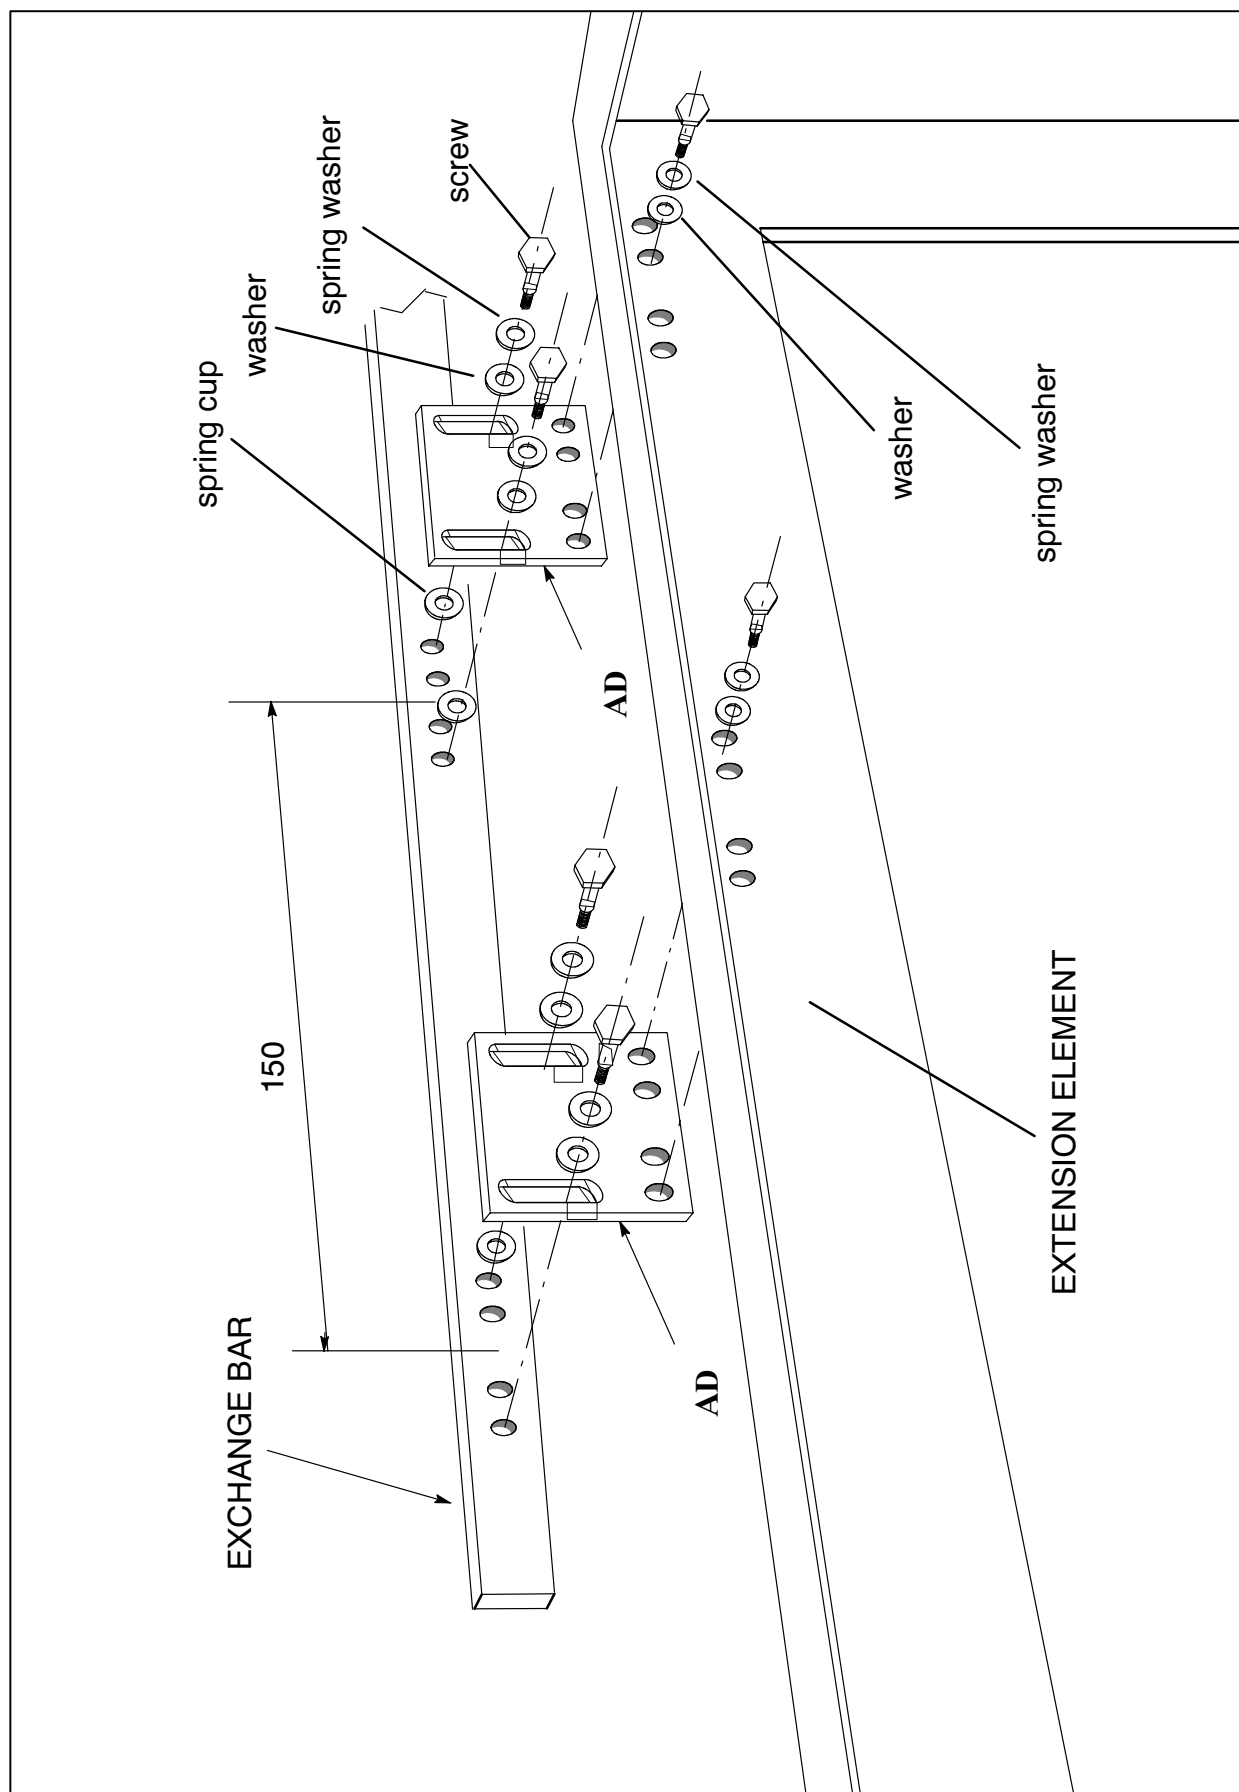

Fig. CC-15 Fastening rack extension element to exchange bar
3. Fit four (two pairs) 6x10mm screws with 6.4x11mm spring washers in the slot (\varnothing 10mm: length 54.8mm) on the top rear section of the extension element. Insert each pair of protruding screws in the holes (odd or even) of each fixing plate and tighten the screws (Fig. CC-15).